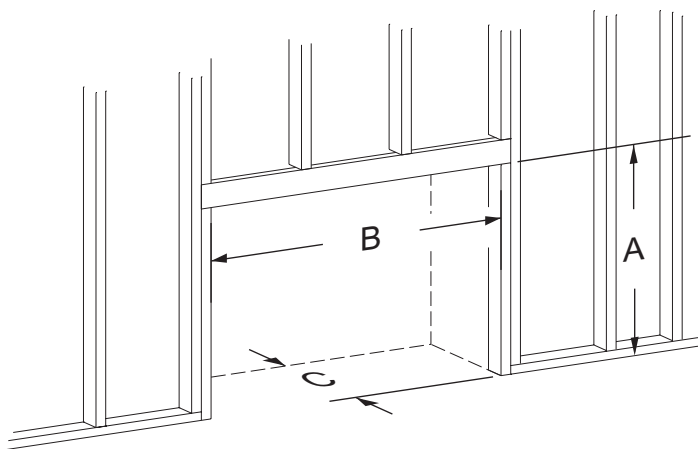

Figure 34 - Rough Opening for Installing in Wall
- Use dimensions shown in Figure 34 for a conventional rough opening.
TABLE 3 - MINIMUM DIMENSIONS (in inches) FOR FIGURES 34 - 36